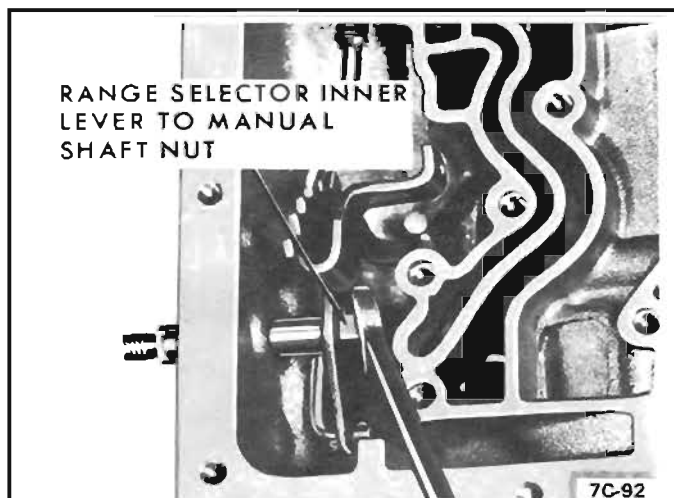

Figure 106 Manual Shaft Nut
3. Install retaining jam nut on manual shaft. Torque jam nut to 30 ft. lbs. (40 N*m). See Figure 106. Install manual shaft to case retainer.